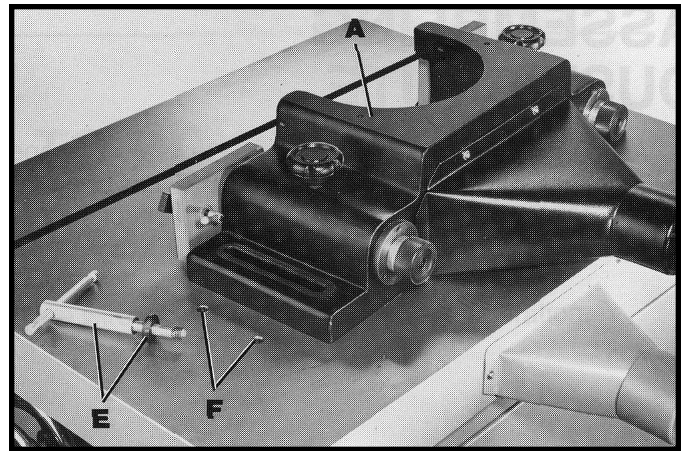

Fig. 19
3. Locate the two fence locking handles and washers, one of which is shown at (E) Fig. 19, and fasten fence body (A) to one of the two sets of holes (F) located on the shaper table.